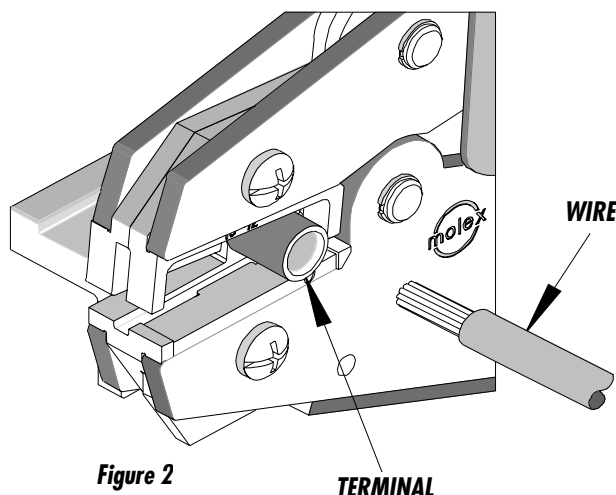

Figure 2
3. Partially close the tool to hold the terminal in place (See Figure 2).
4. Insert the properly stripped wire into the terminal barrel (See Figure 2 and 3). The wire insulation will stop against the taper of the terminal. Cycle the tool.